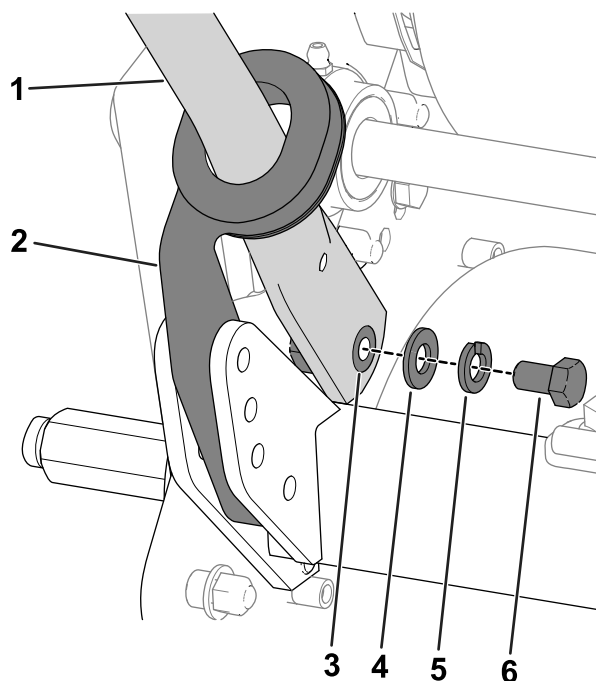

Figure 4
4. Squeeze the handle ends inward and install them on the mounting pins (Figure 4).
5. Secure the handle to the mounting pins with the bolts (3/8 inch), washers, and lock washers that you previously removed (Figure 4).